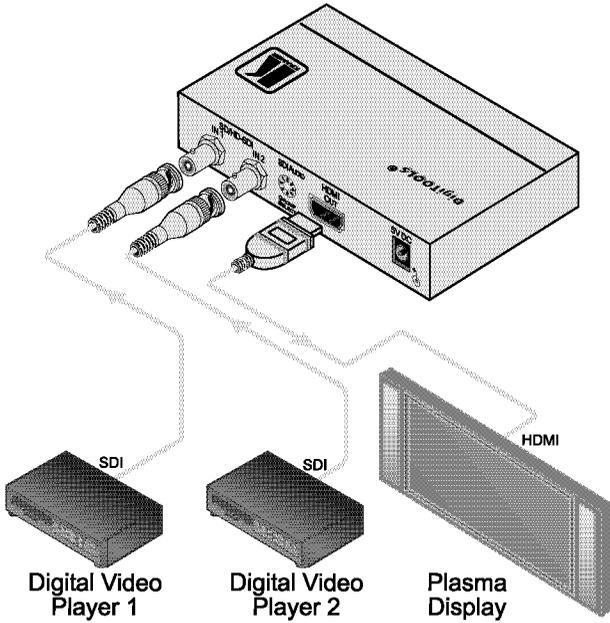

Figure 2: Connecting the FC-321 SD/HDMI Converter/Switcher
To connect the **FC-321**, as the example in *Figure 2* illustrates, do the following¹:
5. Connect the 5V DC power adapter to the power socket and connect the adapter to the mains electricity (not illustrated in *Figure 2*).